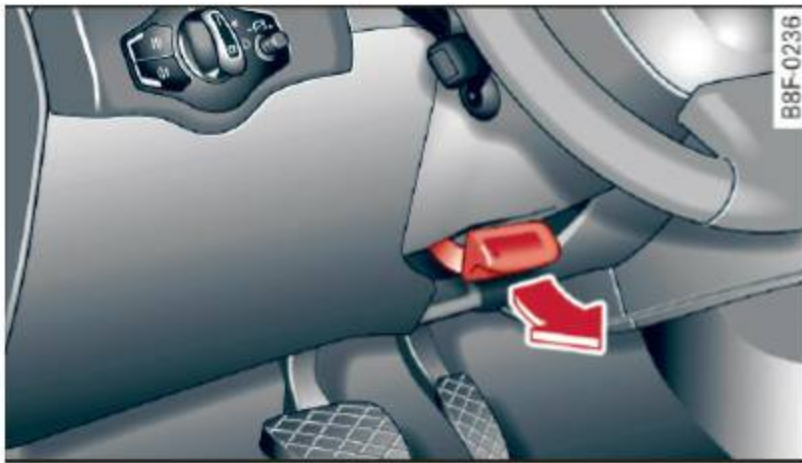

Fig. 73 Lever under the steering column
- ▶ Pull the lever ⇒ *fig. 73* ⇒ ⚠.